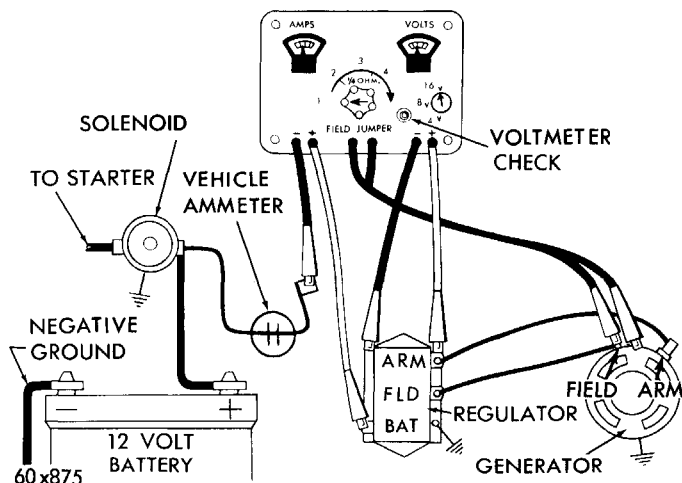

Fig. 1—Generator Out-Put Test
- (1) Disconnect the battery wire from the battery ("B") terminal of the regulator and connect negative lead of test ammeter to the battery wire that was disconnected and the ammeter positive lead to the regulator "B" terminal, as shown in Figure 1.
- (2) Connect positive voltmeter lead to the armature terminal of regulator and negative voltmeter lead to base of regulator.
(1) Turn control knob of tester to Number 2 position. Tester connected as shown in Figure 1. **When the control knob is turned to No. 2 position, the ammeter circuit remains "direct", but the switch in the field jumper circuit automatically opens so that generator output is controlled by the regulator.**
(2) Decrease engine speed until voltmeter reading is below battery voltage, indicating that the output relay points are open.
(3) Very slowly increase engine speed while observing both voltmeter and ammeter. **Note highest voltage reading just before ammeter pointer begins to move. This is the closing voltage of the cutout relay.**